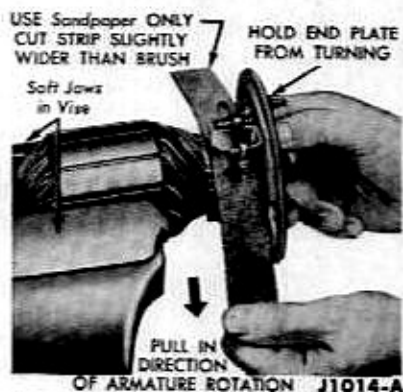

FIG. 14—Generator Brush Seating
5. Make sure that the new brushes slide freely in the brush holders. Seat the new brushes by sanding them in as shown in Fig. 14.